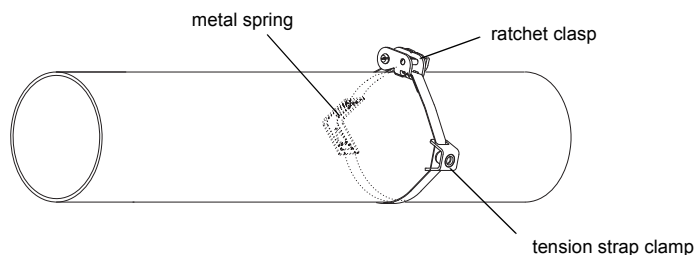

Fig. 7.13: Tension strap with the metal spring, the ratchet clasp and the tension strap clamp on the pipe
- Place the tension strap around the pipe (see Fig. 7.13).